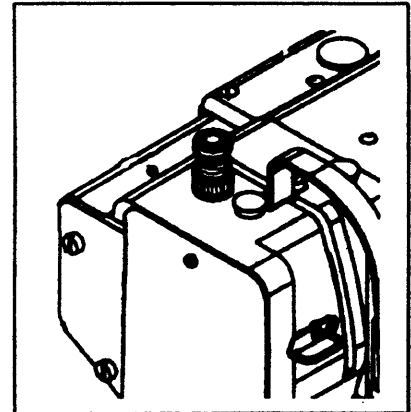

Fig.9
12. Adjustment of presser foot pressure (Fig.9):